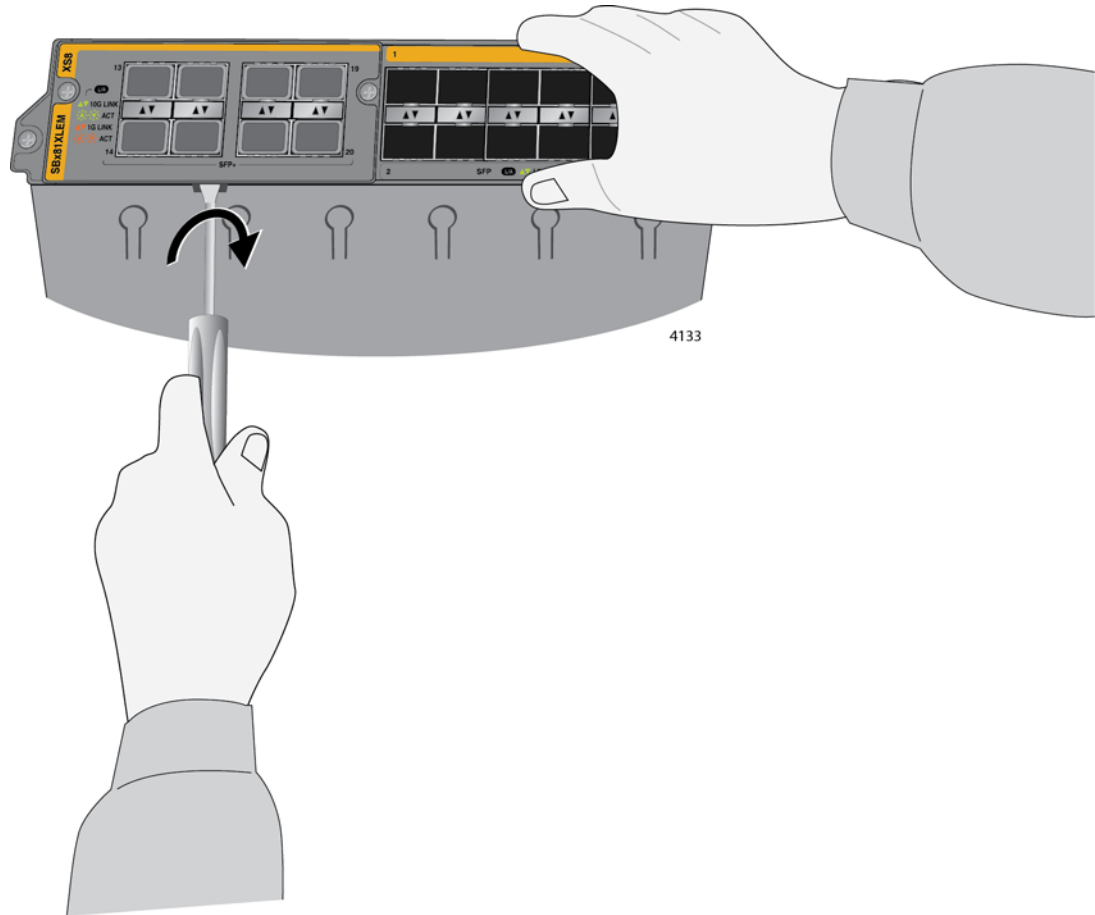

Figure 185. Disconnecting the Expansion Module from the AT-SBx81XLEM Line Card
5. Lift the front of the line card and carefully insert the tip of a flathead screwdriver into the slot beneath the expansion module on the bottom panel. Gently twist the screwdriver to disconnect the module from the connector in the line card. Refer to Figure 185.